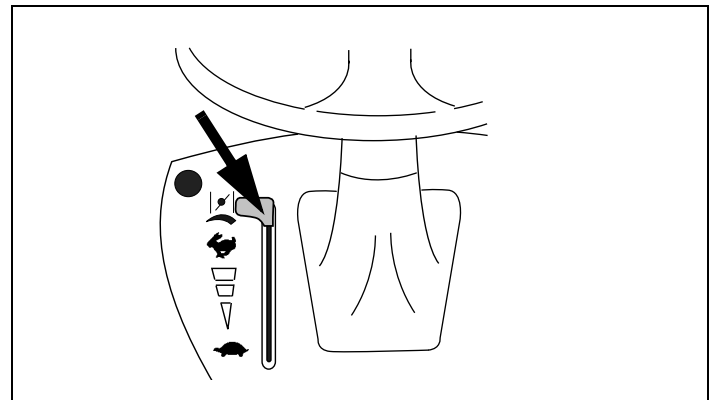

Figure 8. Combined Speed and Choke Control
2. Move combined control to “CHOKE” or “START” position (see equipment manufacturer’s instructions). See Figures 8 and 9.
*If restarting a warm engine after a short shutdown, move combined control to “FAST” instead of “CHOKE” or “START” position. See Figures 8 and 9.*